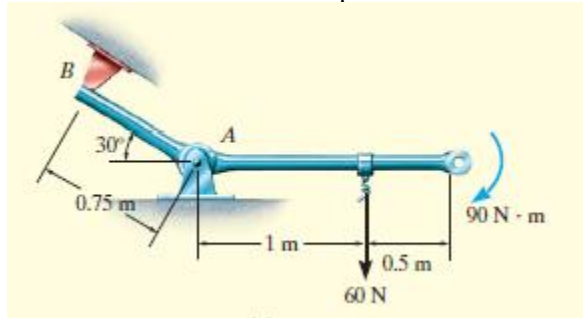

Figure 2
2. The member shown in Fig. 2 is pin-connected at  $A$  and rests against a smooth support at  $B$ . Determine the horizontal and vertical components of reaction at the pin  $A$ .